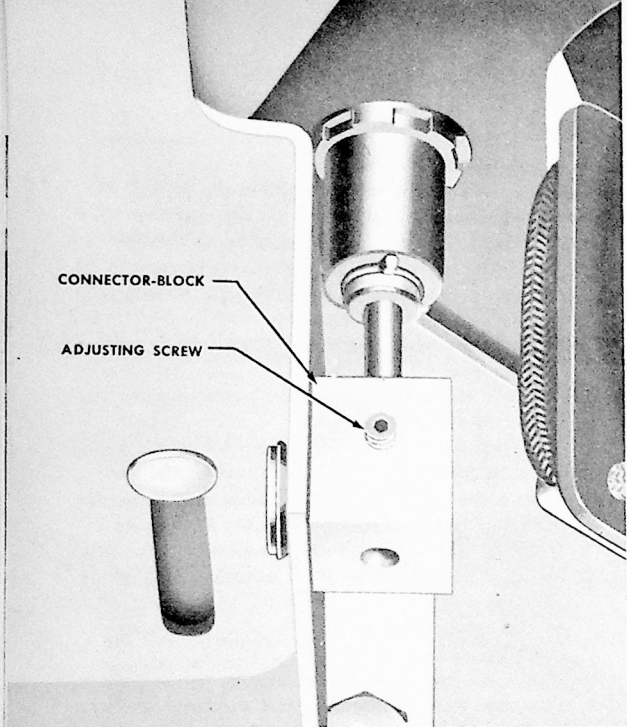

Figure 15—SPINDLE-HEIGHT ADJUSTMENT.
2. Using a No. 4 Allen wrench, release the set screw in the spindle connector block. See Figure 15.